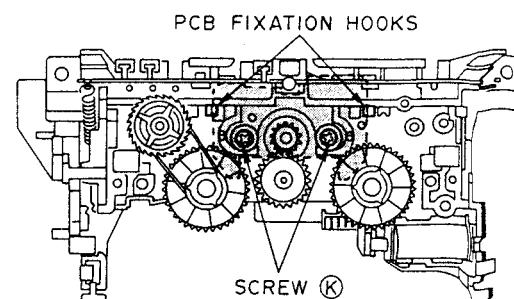

Fig. 3-12
- 2) Remove the PCB retaining screw ⑨.
- 3) Release the two hooks which retain the REEL PULSE DETECTION PCB and remove the PCB. (Refer to Fig.3-12)
- 4) Remove the springs of the assist lever (A) and (B).
- 5) Extract the assist lever (A) and (B).
- 6) Remove the reel motor retaining screws ⑫ and remove the REEL MOTOR.